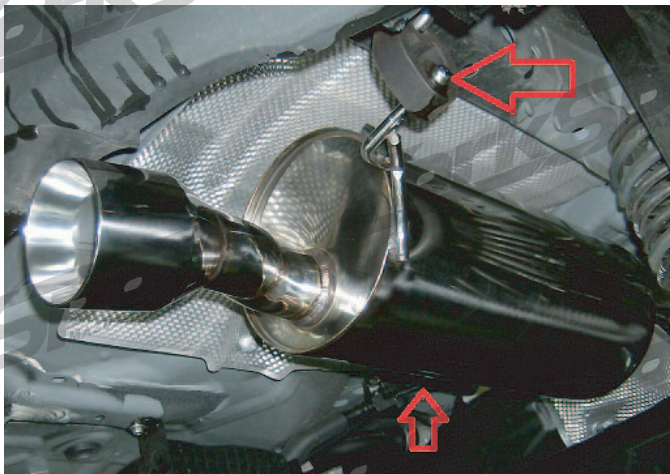
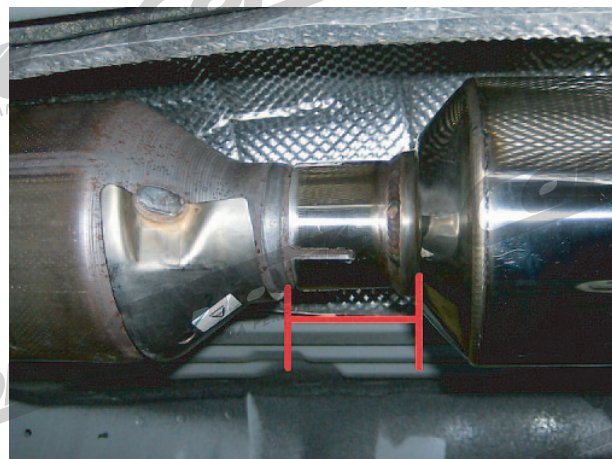

Figure 2C
Figure 2A
- 2a) Remove the four (4) 12mm bolts securing the chassis brace to the vehicle and remove the brace
- 2b) Remove the two (2) 14mm nuts holding the muffler to the midpipe
- 2c) Remove the muffler from the two (2) rubber hangers and remove the muffler from the vehicle
- 2d) Remove the two (2) 14mm nuts holding the midpipe to the header
- 3a) If you are not installing the racepipe, cut the factory exhaust two (2) inches back of the catalytic converted weld as shown in **Figure 2A**
- 3b) Install the racepipe (or stock exhaust that you just cut) by bolting the flanged section to the header using the two (2) supplied M10 x 1.25 x 70mm bolts and large washers
- 3c) Install the muffler section of the CorkSport Exhaust by inserting the two (2) hanger posts in to the rear most stock rubber hangers as shown by the **red arrows** in **Figure 2C**
- 3f) Connect the front end of the midpipe section to the racepipe (or stock cat section) by sliding the midpipe slip fit section over the racepipe (shown in **Figure 2A**)
A) If you are installing the exhaust without the racepipe, you will need to cut your stock exhaust. **Figure 2A** shows where you will need to cut the exhaust. Measure about one (1) inch back from the large weld bead on the catalytic converter and make a mark. Using a pipe cutter or saw, carefully cut the stock exhaust at the mark.
C) Install the muffler section of the CorkSport Exhaust by inserting the two (2) hanger posts into the rear most stock rubber hangers in the rear of the vehicle as shown by the **red arrows** in **Figure 2C**.
F) Connect the front end of the midpipe section to the stock cat section (or racepipe) by sliding the midpipe slip fit section over the racepipe (shown in **Figure 2A**).